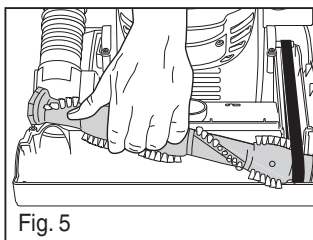

Fig. 5
- 5) Pull right side of brush roll to stretch belt. Secure right end cap into base (Fig. 5). Align left end cap with square in base and push into place.